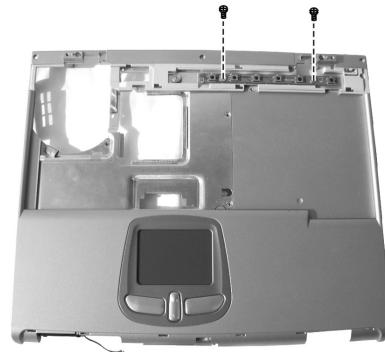

Figure 2-22
5. Remove two screws fastening the LED board. (Figure 2-22)